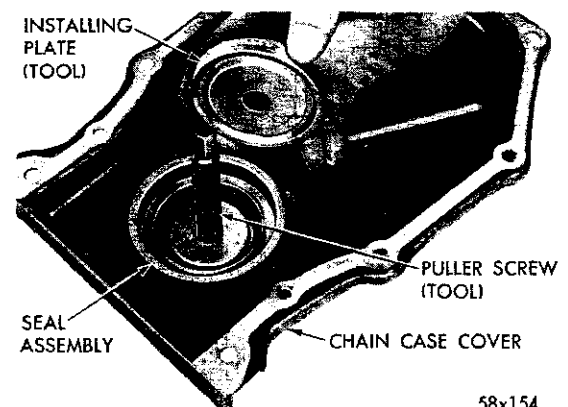

Fig. 25—Positioning Installer Plate on New Seal
(1) Insert the puller screw through the removing and installing plate so that the thin shoulder will be facing up.
(2) Insert the puller screw with the plate through the seal opening (inside of the chain case cover facing up).
(3) Place the seal in the cover opening, with the neoprene down. Place the seal installing plate into the new seal, with the protective recess toward lip of the seal retainer (Fig. 25).